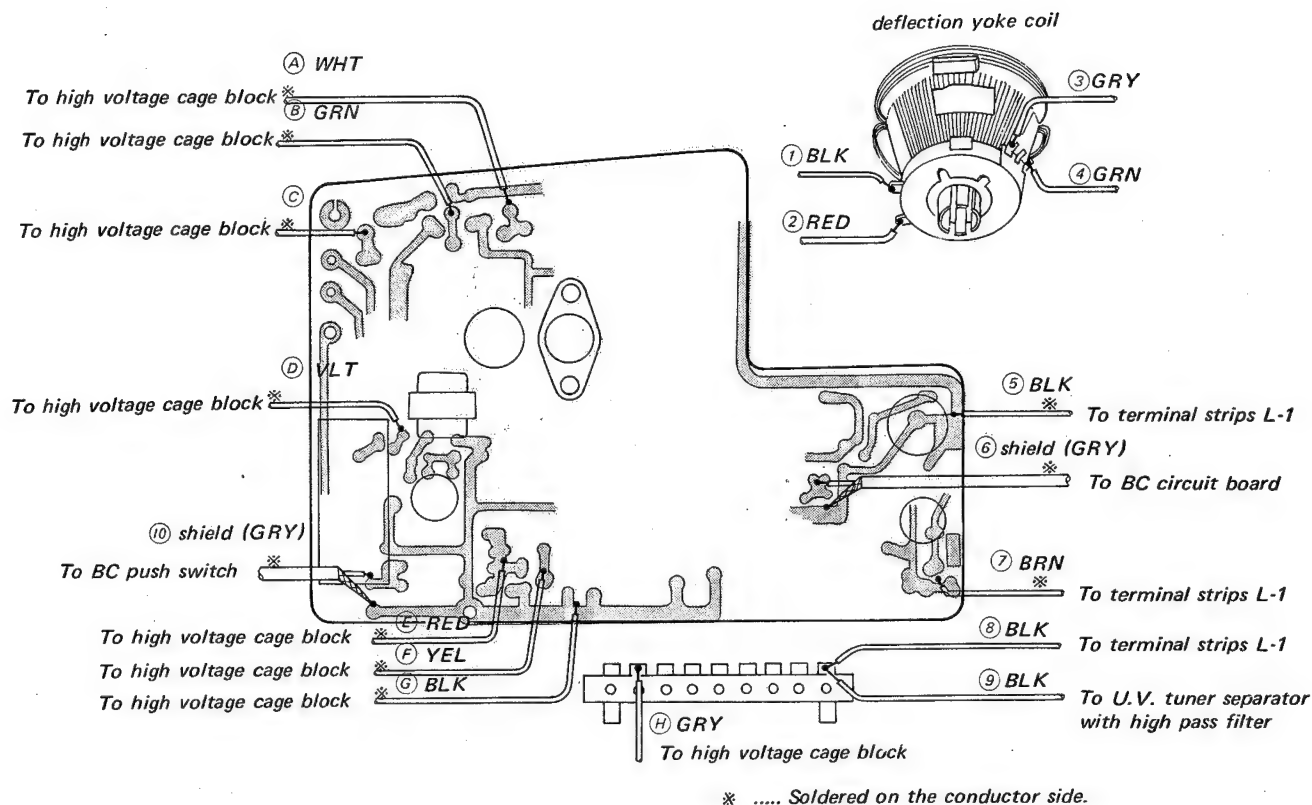

Fig. 6
7. Unsolder the two shielded cables (⑥ , ⑩ in Fig. 6).
8. Unsolder the eight leads (① , ② , ③ , ④ , ⑤ , ⑦ , ⑧ , ⑨ , in Fig. 6).
2. Unsolder the eight leads (① , ② , ③ , ④ , ⑤ , ⑥ , ⑦ , ⑧ in Fig. 6).